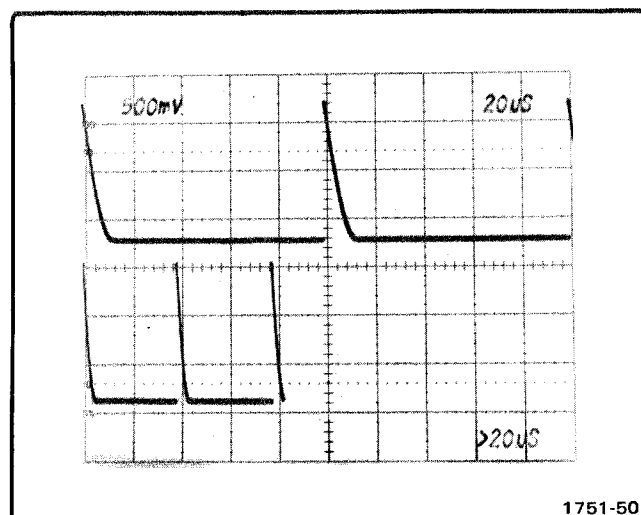

Fig. 5-3b. Variable Time/Division range.
i. Check—with VARIABLE control released and turned fully counterclockwise, at two Delayed sweep markers (bottom) to one Delaying sweepmarker is visible, as shown in Fig. 5-3b.